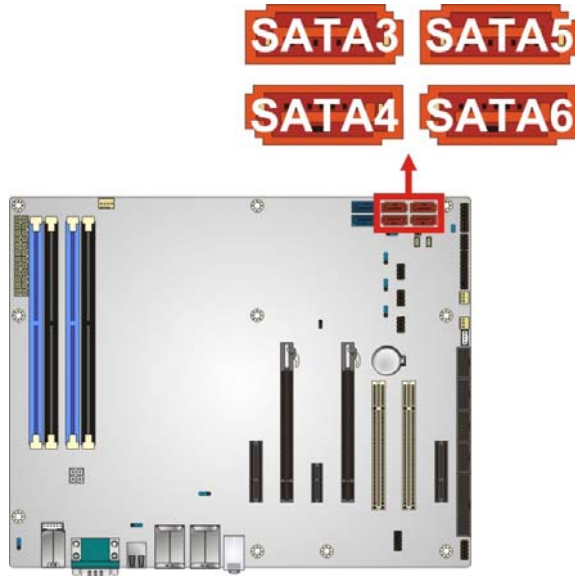

Figure 3-21: SATA 3Gb/s Drive Connector Locations
- CN Location:** See **Figure 3-21**